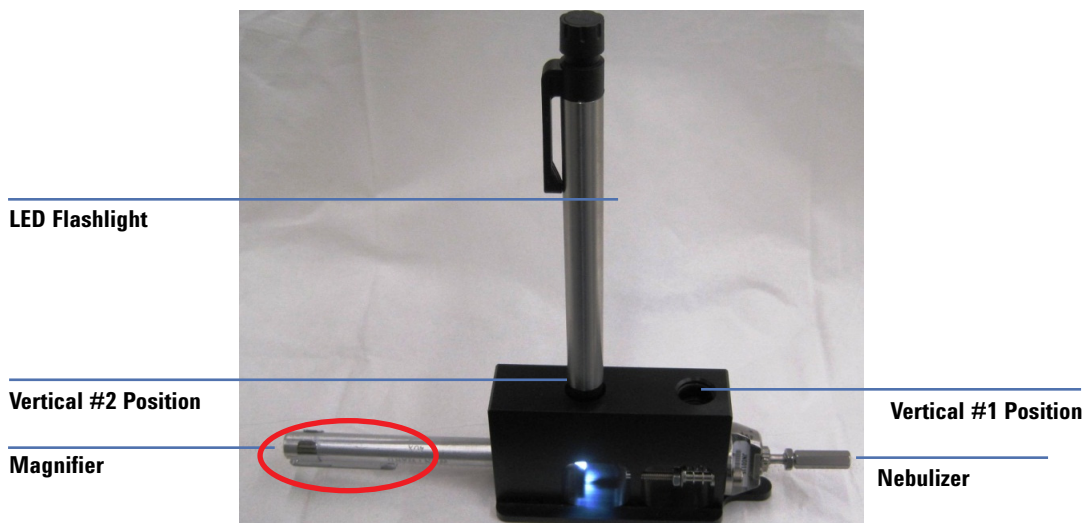

Figure 1 Setup to inspect the end of the nebulizer. Pocket clip of the 40× Magnifier is circled.
- 2 To inspect the *end* of the nebulizer for poor needle centering, plugged needles, or nozzle damage (Figure 1):